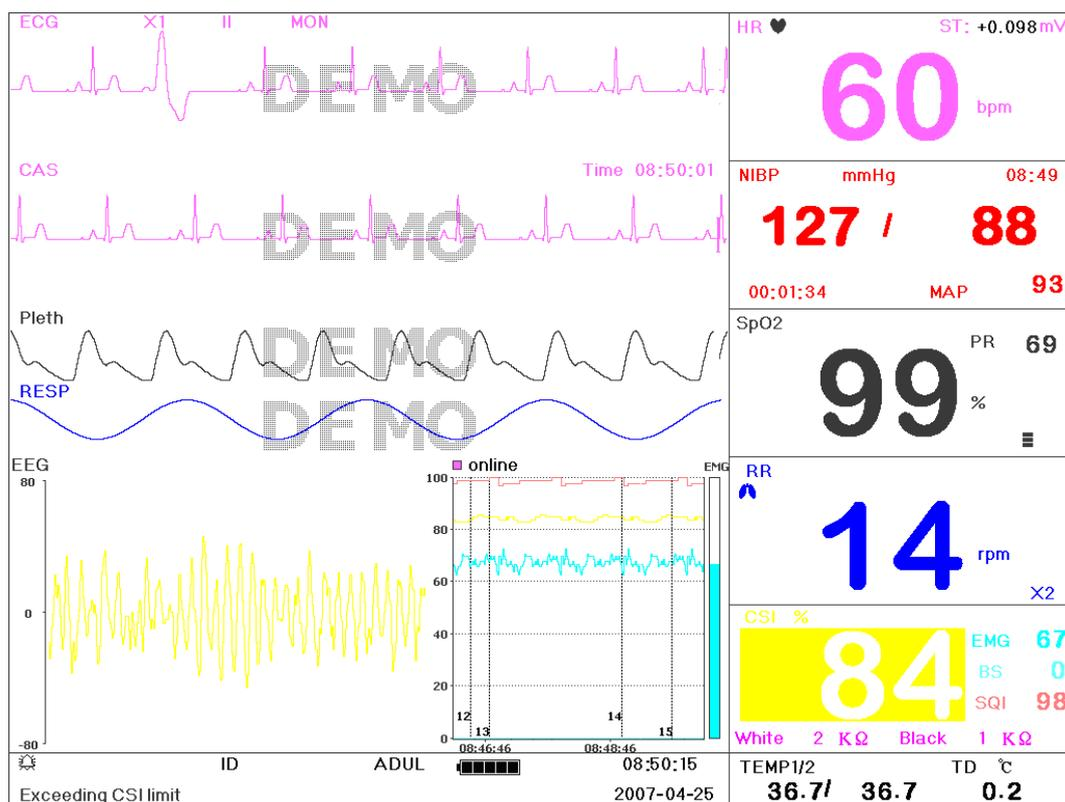
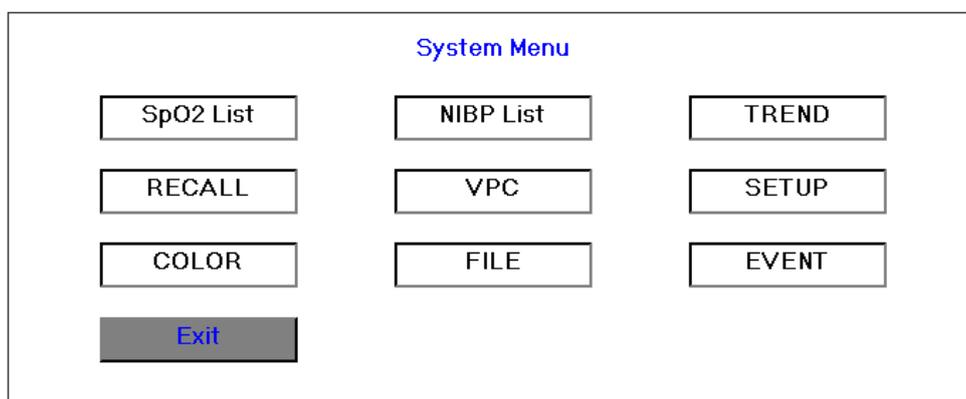

Figure 4.2 Main Screen
Figure 4.12 Mode Selection Screen
Step 5: If you have finished adjusting the date and time, press the knob and rotate the knob to move the cursor to “Save”, press it to save the settings. Then move the cursor to “Exit”, press it to exit the date and time setting screen, meanwhile enter into the main screen shown in Figure 4.2.
The system is initialized and enters into Main Screen where monitoring and system operation are performed. (shown in Figure 4.2)
Press the Navigation Knob in the main screen as shown in Figure 4.2, the operating area shows the mode selection screen, as shown in Figure 4.12.